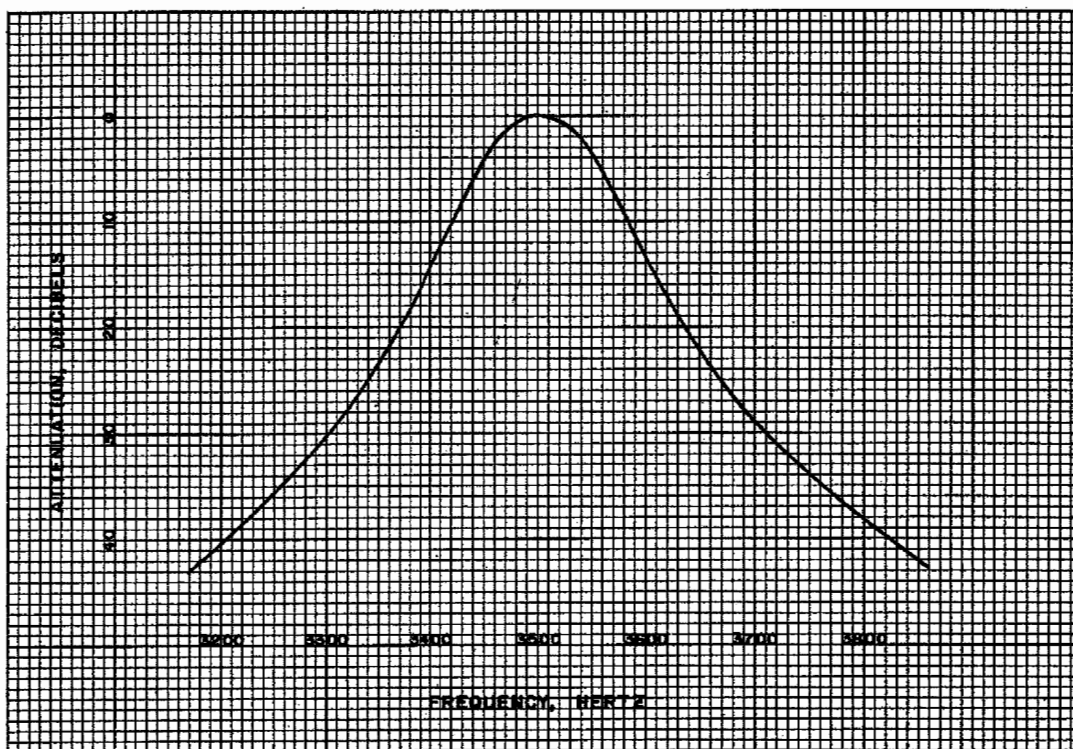

FIGURE 7, MBP 3500-90 FILTER CHARACTERISTIC
FL2 is a narrow bandpass, LC filter using toroidal inductors and temperature compensated components. This type of filter was selected because of its high degree of stability and selectivity. The low impedance design (750 ohms) minimizes unwanted noise pickup and "feed around" often encountered with high impedance sections. It has a bandwidth of only 95 Hz., and operates at a center frequency of 3500 Hz. (See figure 7.) Thus, only the mixer product from U2(2) which occurs at 3500 Hz. will be accepted as the mark frequency, and all others will be rejected.